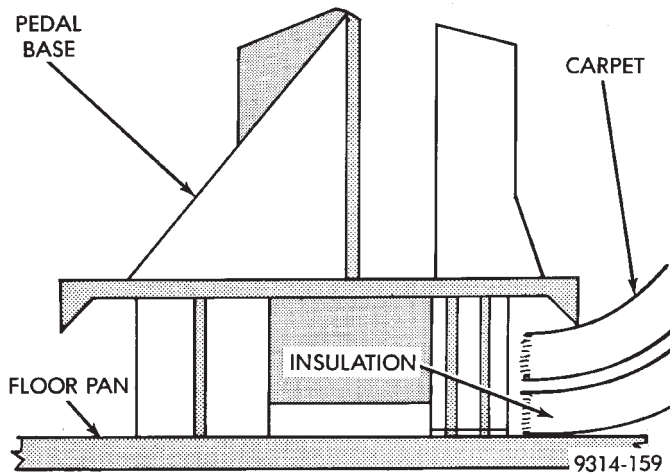

Fig. 4 Carpet and Insulation Placement
- (1) Remove air cleaner lid attaching screws. Lift lid off of air cleaner housing.
- (2) Remove filter element (Fig. 4).
- (3) If necessary, clean the inside of the air cleaner housing.
- (4) Install new filter element.
- (5) Place lid over air cleaner housing. Tighten screws.